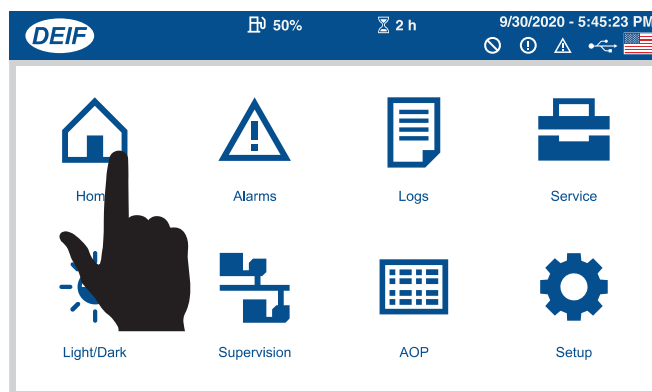

Figure 159. Main Menu Screen (Home Button)
- Verify that the **Main Menu** screen (Figure 159) is displayed, then press the **Home** button.